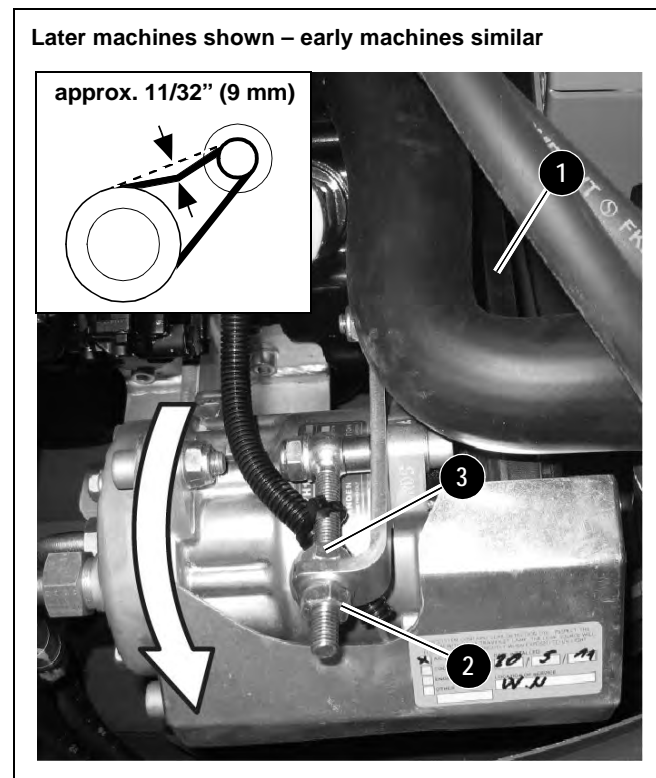

Figure 4-17 Checking & Adjusting Air Conditioning V-belt Tension
4. Wait for the engine to cool and then open the engine cover and carefully inspect the V-belt (1) for damage. If the air conditioning V-belt (1) is damaged, have it replaced by your dealer.
5. Press on the center of a span on the air conditioning V-belt to check deflection. The belt deflection should be no more than 11/32" (9 mm). See Figure 4-17.
- a. Loosen jam nut (2) and rotate the adjustment nut (3) until reaching the correct V-belt tension.
- b. Tighten jam nut (2) and re-check V-belt tension. Close the engine cover when finished.